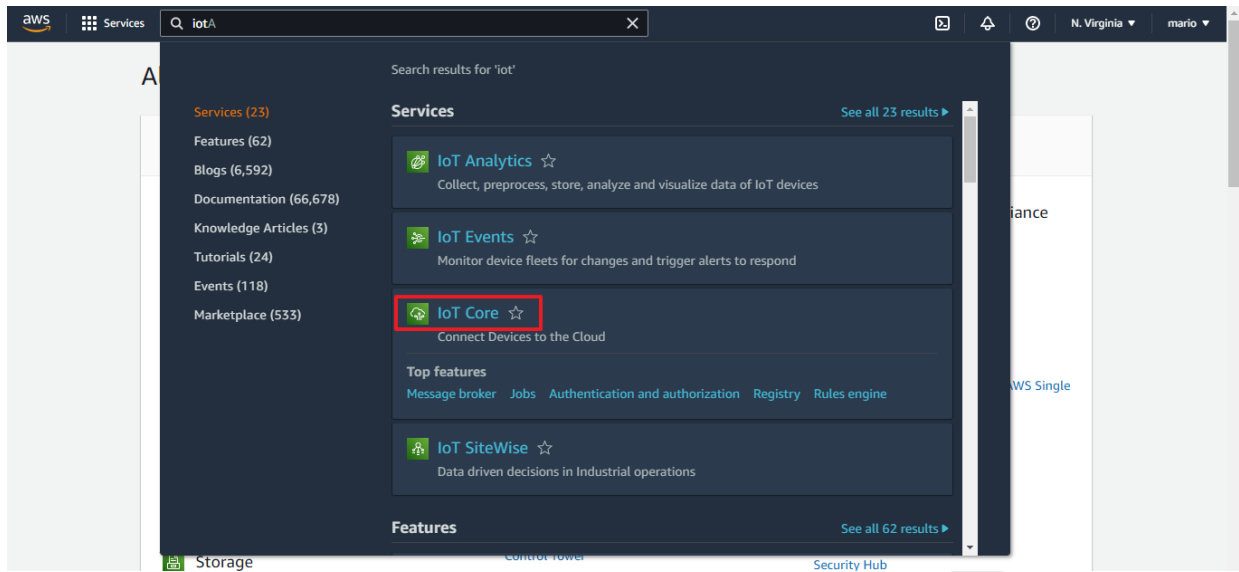

Figure 4-128 IoT Core Endpoint
1. Click Services to enter the IoT Core entrance (as shown in Figure 4-128).